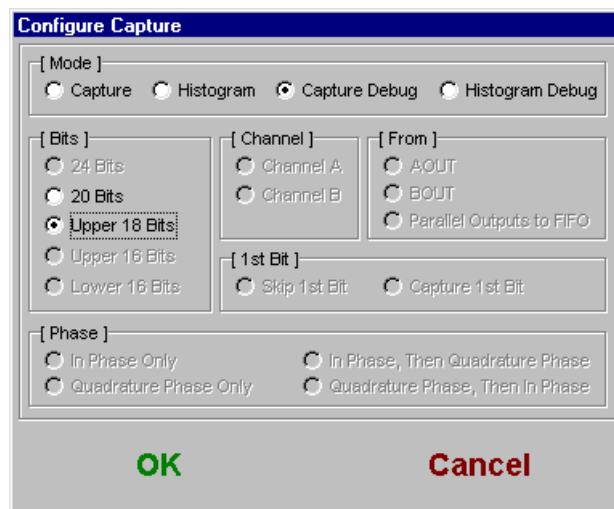

Figure 13 Screen configuration for step 12.
**Bits** box. Press **OK**. The screen should appear as in Figure 13.